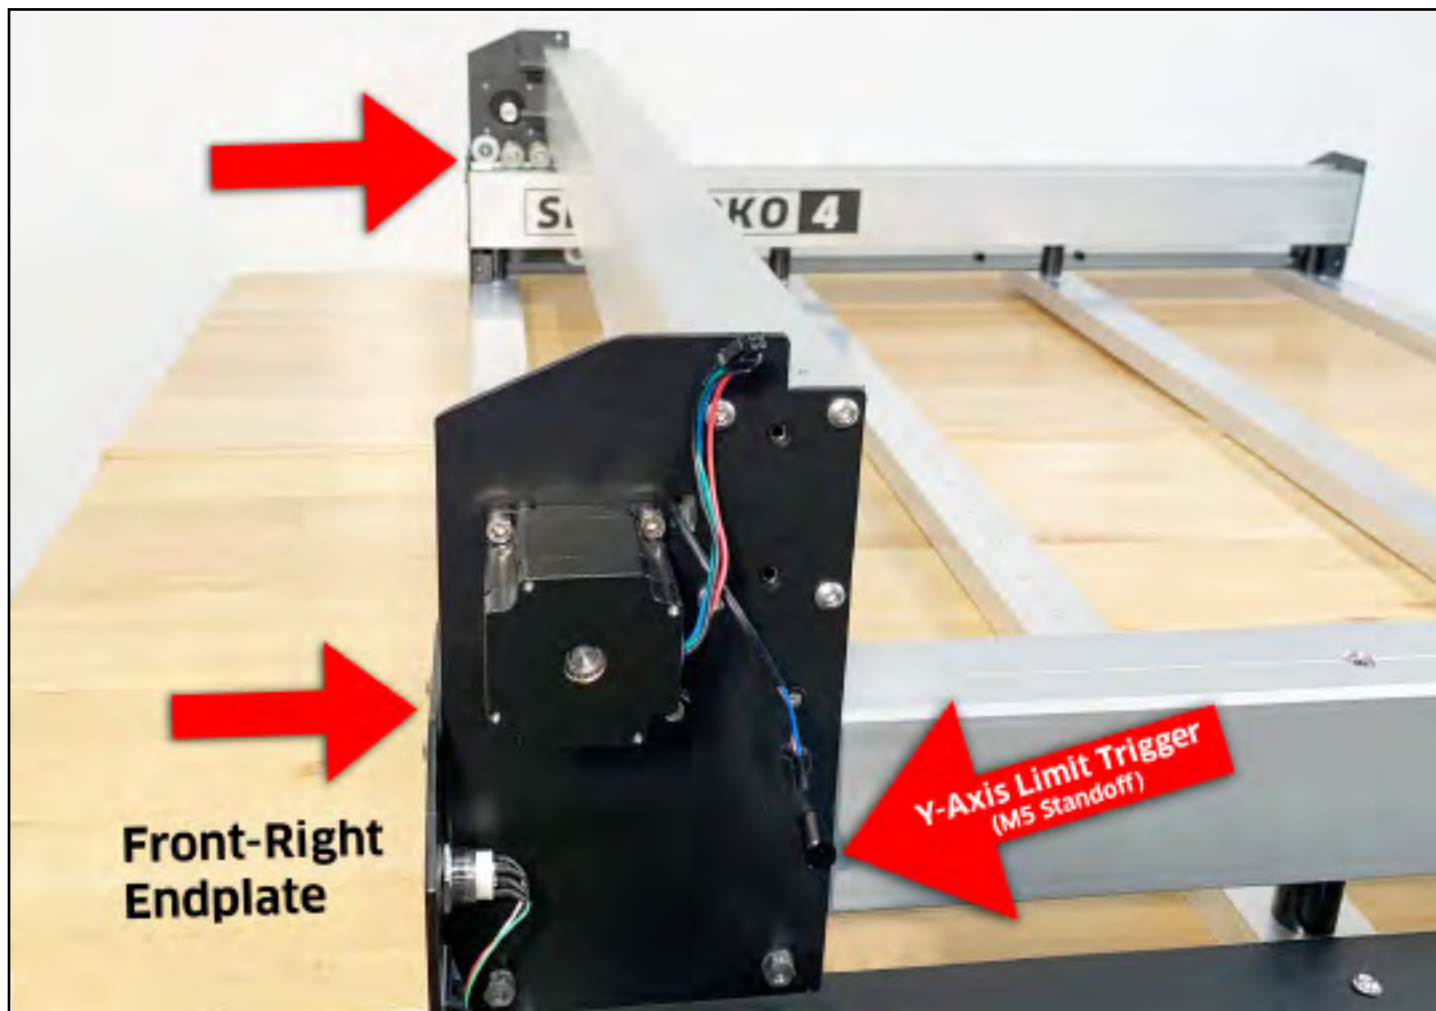

Figure 4-6
2. Screw the M5 standoff into the M5 screw hole in the Y-Right gantry plate. See **Fig. 4-6**.
4. Adjust the squareness of the baseframe until both ends of the gantry touch the front endplates. See **Fig. 4-6**.
7. Use a 4mm hex key to fully tighten the eight (8) M6×6mm BHCS securing the left and right drag chain support panels to the baseframe.